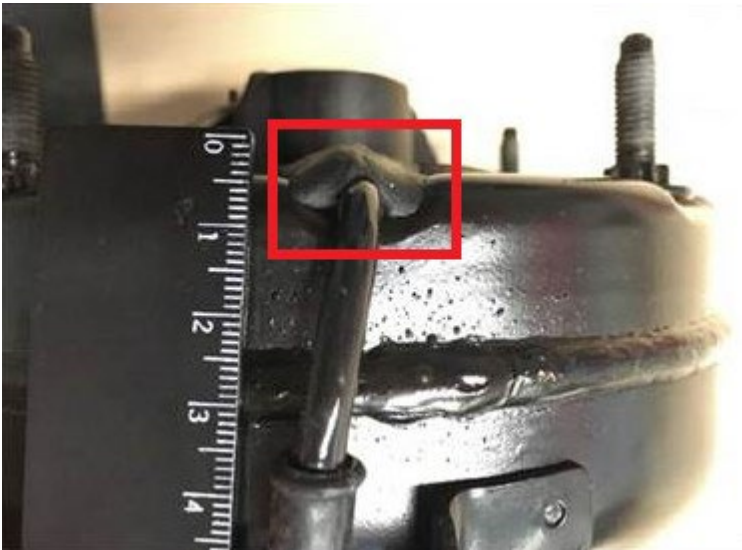

Figure 2. Butyl adhesive sealing cord is applied as shown.
- Shape butyl adhesive sealing cord according to figures 2 and 3.